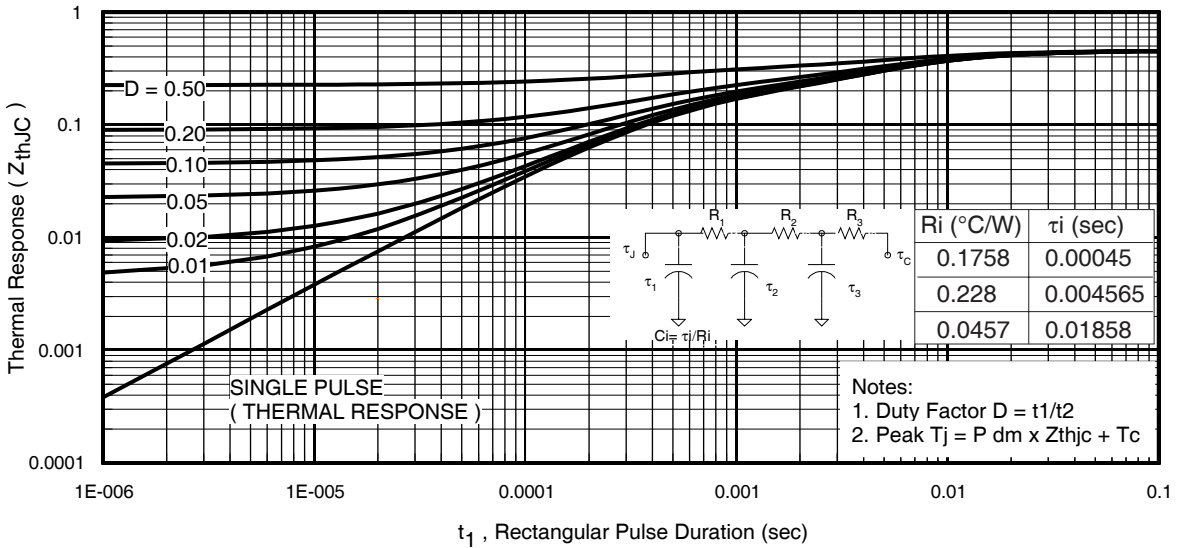
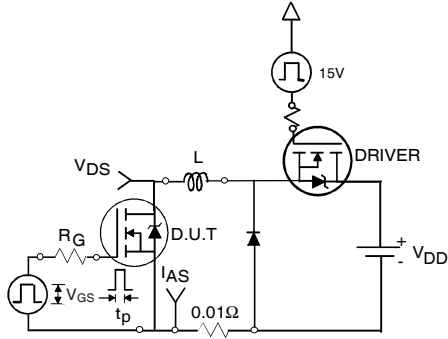

Fig 11. Maximum Effective Transient Thermal Impedance, Junction-to-Case
Fig 12a. Unclamped Inductive Test Circuit
- ① Repetitive rating; pulse width limited by max. junction temperature. (See fig. 11).
- ② Limited by T_{Jmax} , starting $T_J = 25^\circ\text{C}$, $L = 0.17mH$, $R_G = 25\ \Omega$, $I_{AS} = 75A$, $V_{GS} = 10V$. Part not recommended for use above this value.
- ③ Pulse width $\leq 1.0ms$; duty cycle $\leq 2\%$.
- ④ $C_{oss\ eff.}$ is a fixed capacitance that gives the same charging time as C_{oss} while V_{DS} is rising from 0 to 80% V_{DSS} .
- ⑤ Limited by T_{Jmax} , see Fig.12a, 12b, 15, 16 for typical repetitive avalanche performance.
- ⑥ This value determined from sample failure population. 100% tested to this value in production.
- ⑦ R_{θ} is measured at T_J of approximately 90°C .
3. Equation below based on circuit and waveforms shown in Figures 12a, 12b.
$Z_{thJC}(D, t_{av})$ = Transient thermal resistance, see figure 11)